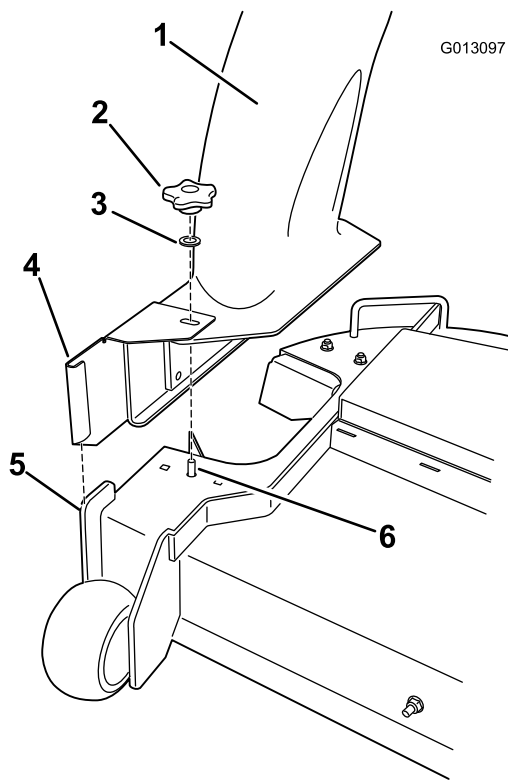

Figure 18
Note: Ensure that the opening in top of the chute aligns with the exposed post on the mower deck top and the forward vertical plate mates with the folded metal bracket of the chute (Figure 18).
6. Install a washer and hand knob over the post coming through the chute top (Figure 18).